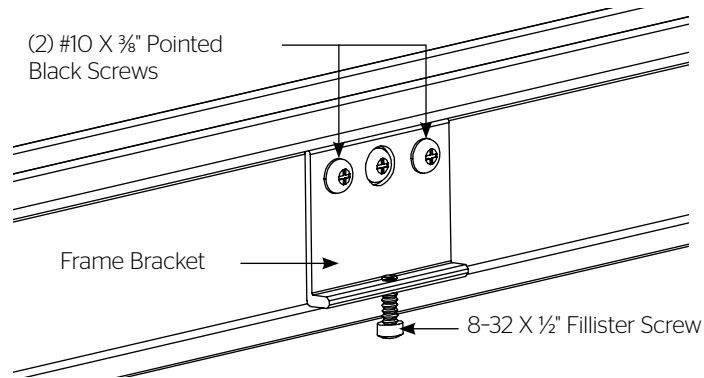

Figure 6 – Screens Under 104" in Viewing Width
a. For screens under 104" wide viewable, attach (1) frame bracket to the bottom of the screen with (2) #10 x $\frac{3}{8}$ " pointed BLACK screws (Figure 6).
5. Insert 8-32 x $\frac{1}{2}$ " zinc plated fillister screw into frame bracket(s) (Figure 6 or 7). Rotate four or five turns only.